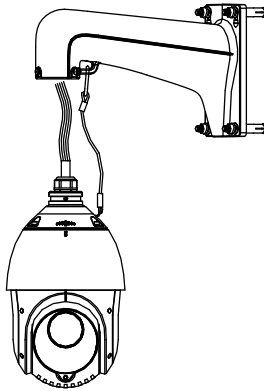

Figure 2-18 Safety Rope
- 1) Hook the two ends of the safety rope to the speed dome and the bracket respectively as shown in Figure 2-18.